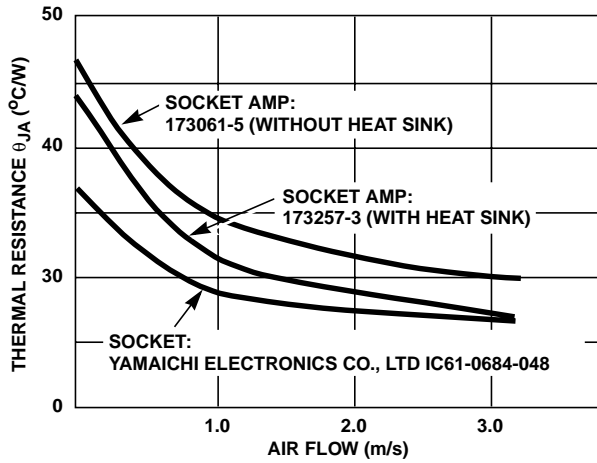

FIGURE 2. THERMAL RESISTANCE OF THE CONVERTER MOUNTED ON A BOARD
5. T_A is specified in still air and without heat sink. To extend temperature range, appropriate heat management techniques must be employed (See Figure 2).